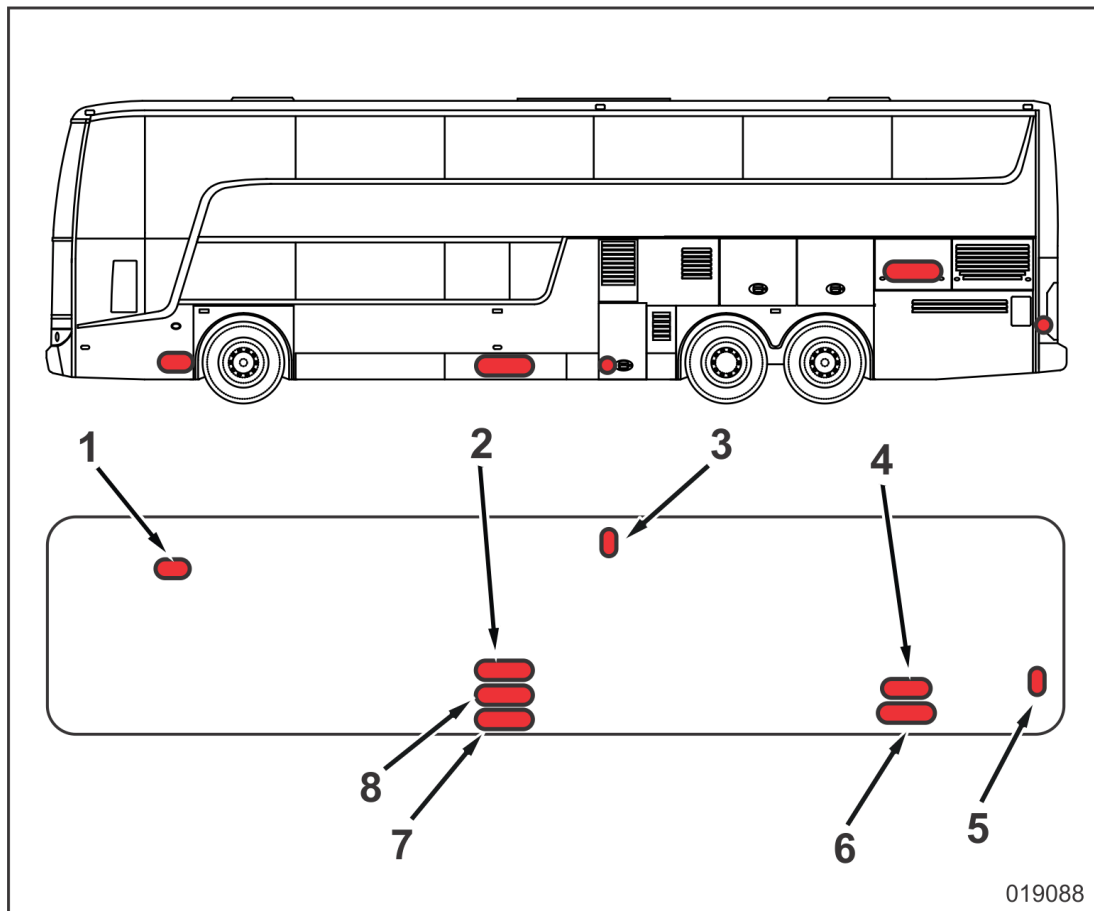

Figure 6: Location of compressed-air tank on TDX25E
3.2	 WARNING! Use appropriate hearing protection while draining the air tanks. Completely drain the entire air system by using the drain cocks on the air tanks. Refer to figure 6 at the end of this service bulletin for air tanks location.  Figure 2: Compressed-air tank drain cock, current model Left: closed Right: open